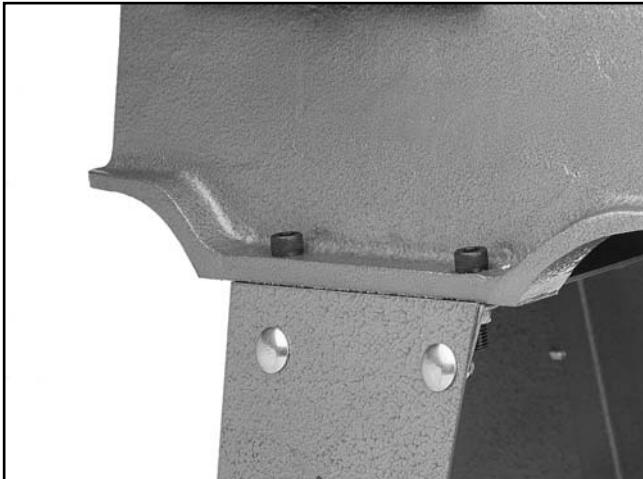

Figure 4.
4. With an assistant, set the lathe bed assembly on the stand, orienting the front of the headstock with the switch opening in the stand leg. Bolt the lathe bed to the stand using the eight $5/16$ "-18 x 1 cap screws and hex nuts supplied and tighten down (**Figure 4**).